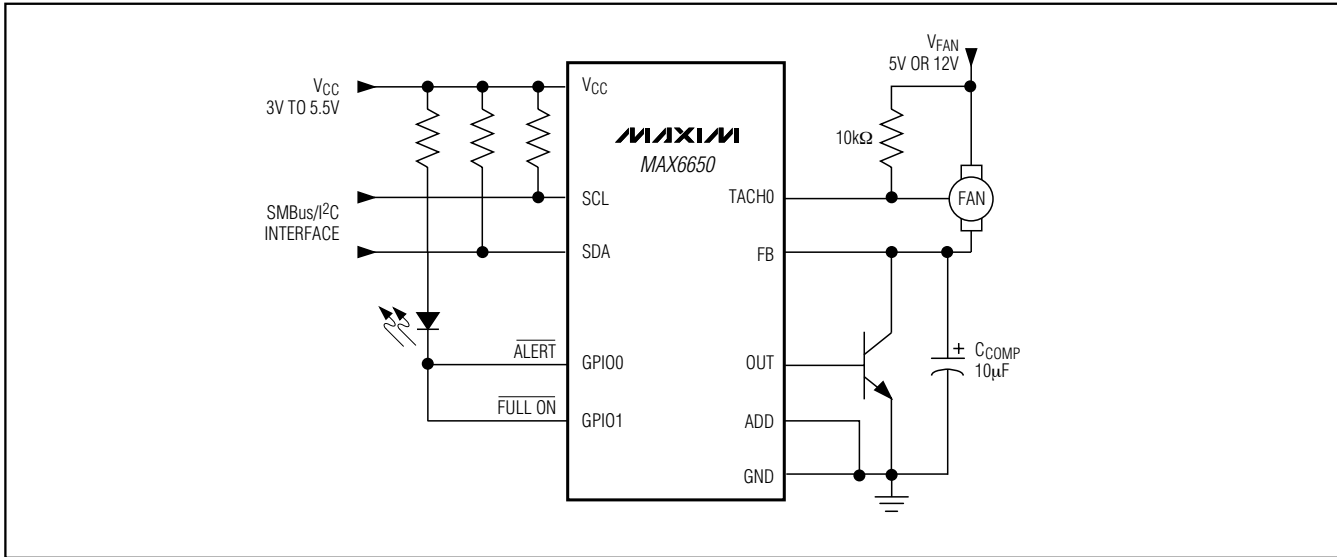

Figure 6. Fan Control with a Bipolar Transistor
breakdown voltage, current rating, and drain-to-source on-resistance (RDS(ON)). Gate-to-source conduction threshold must be compatible with available VCC. The maximum gate-to-source voltage and the drain-to-source breakdown voltage rating should both be at least a few volts higher than the fan supply voltage (VFAN). Choose a MOSFET with a maximum continuous drain current rating higher than the maximum fan current. RDS(ON) should be as low as practical to maximize the feedback voltage range. Maximum power dissipation in the power transistor can be approximated by  $P = (V_{FAN} \times I_{FAN(MAX)}) / 4$ . Bipolar power transistors are practical for driving small and midsize fans (Figure 6). Very-high-current fans may require output transistor base current greater than the MAX6650's 50mA drive capability. Bipolar Darlington transistors will work but have poor saturation characteristics and could lose up to 2V to 3V of drive voltage.